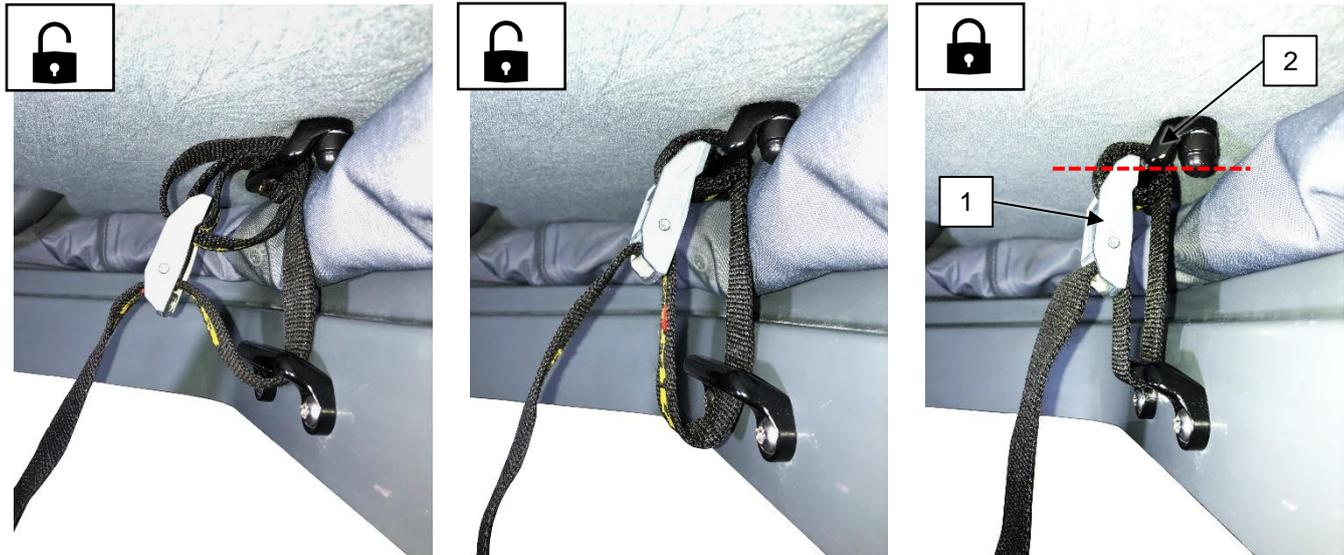

Fig. 8-1: Strap guide of the locking device
- Attach the webbing according to fig. 8-1 and pull it tight: **The buckle (1) must rest on the bracket (2)!**